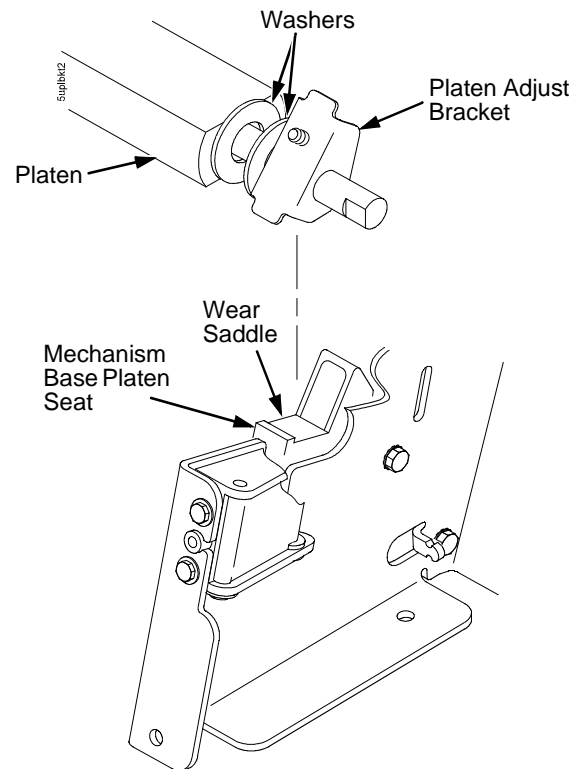

Figure 29. This figure shows how to position the platen adjust brackets on the mechanism base and wear saddles.
4. Make sure the two wear saddles are set flush into the corners of the mechanism base platen seat. (See Figure 29.)